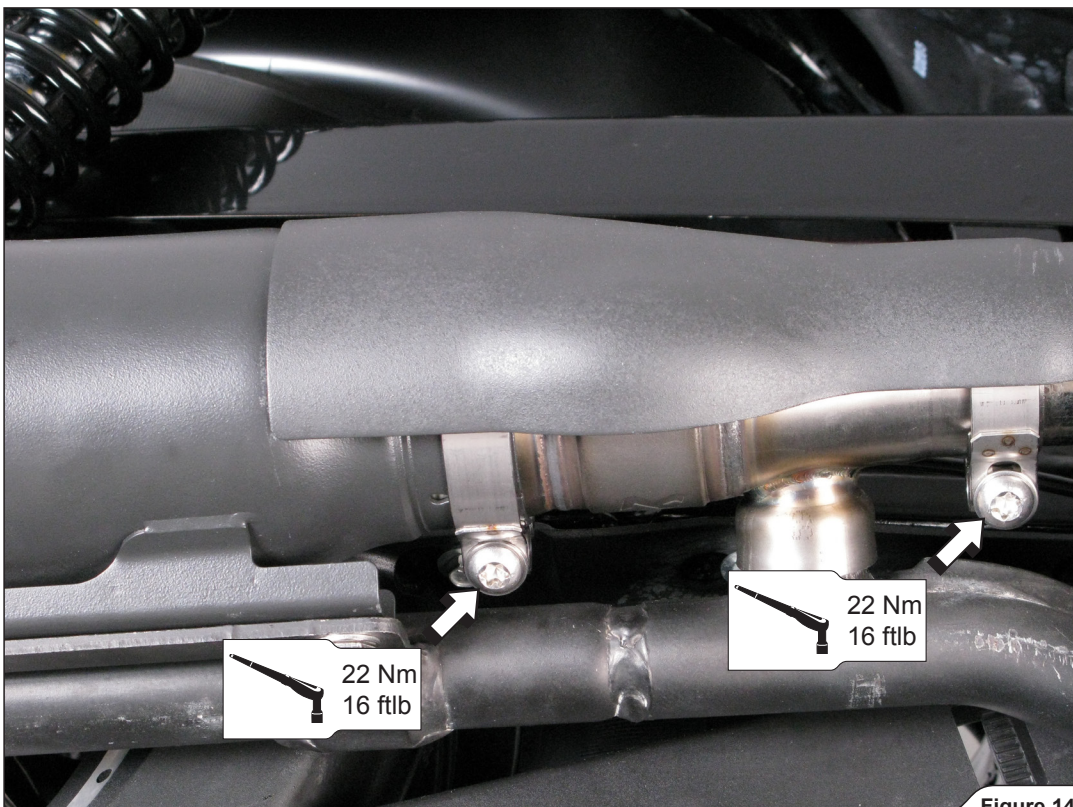

Figure 14
6. Align both muffler heat shields with header tubes heat shields, adjust all the clamps as shown and tighten them to a specified torques (Figure 14).